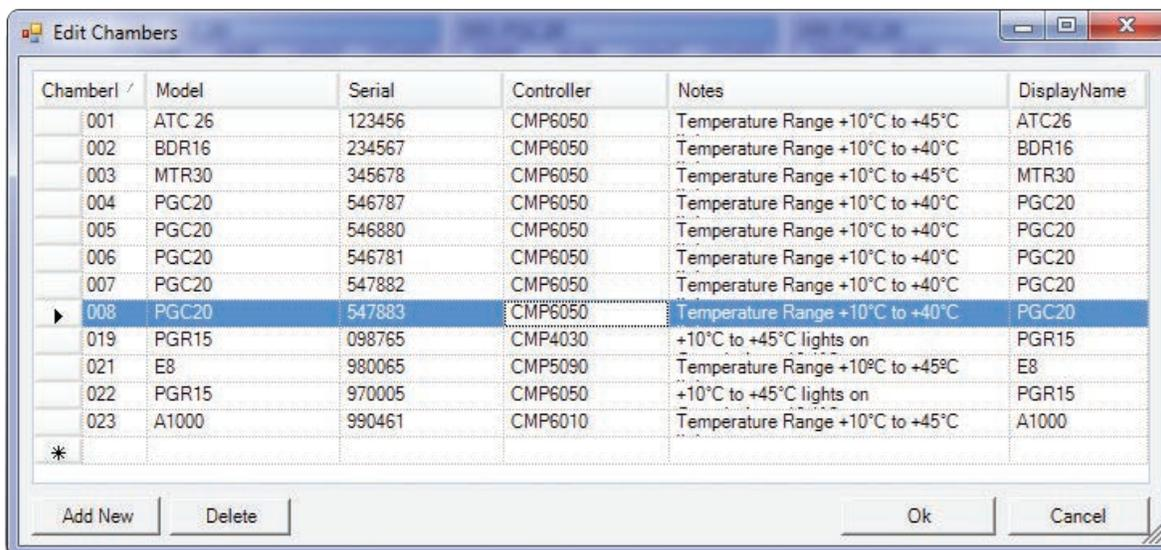

Figure 2.11: Edit Chambers Dialog
6. To edit any record in the Edit Chambers window, select the entry and type in the new information Figure 2.11: Edit Chambers Dialog.